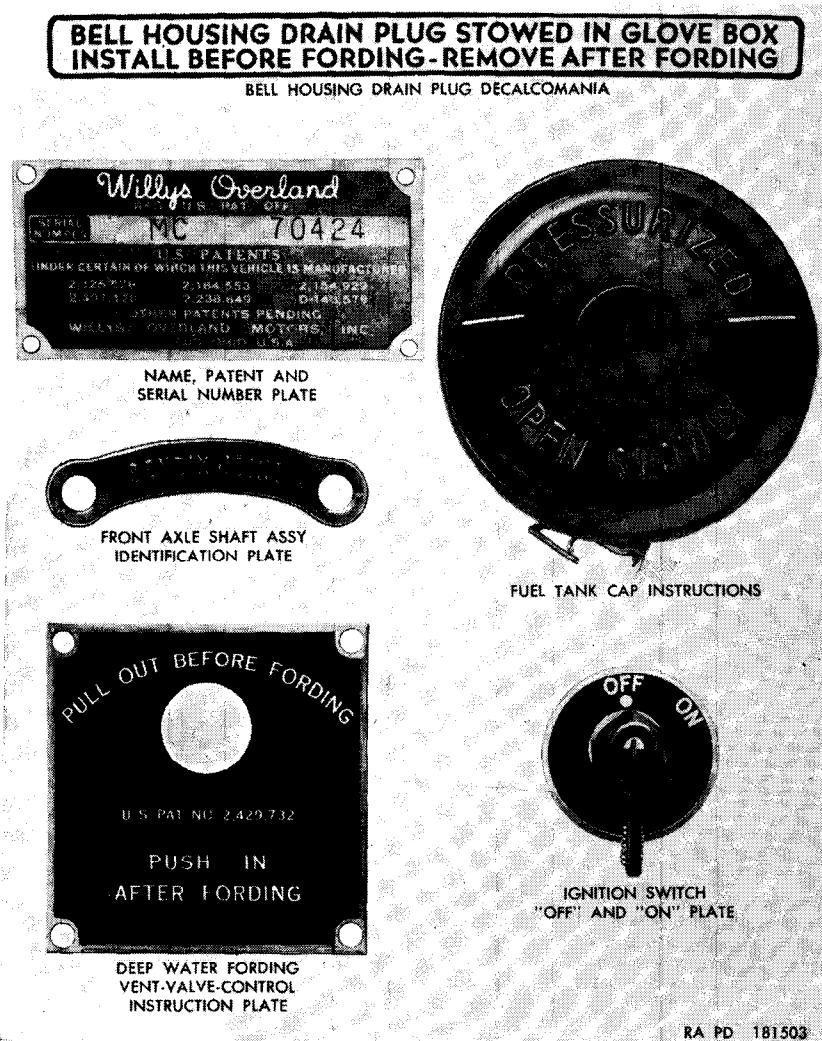

Figure 5. Instruction decalcomania and data plates.
(9) Name, patent, and serial number plate (fig. 5). The name, patent, and serial number plate is located on the inside of the body on the front of right rear wheel fender well.
- (2) *Deep water fording vent valve control instruction plate*. The deep water fording vent valve control instruction plate (fig. 5) is attached to the instrument panel behind the deep water fording vent valve control (H, fig. 7). The plate gives instructions for operating the control when fording.
- (4) *Ignition switch OFF and ON plate* (fig. 5). The ignition switch OFF and ON plate is located on the instrument panel to the left of the instrument cluster around the ignition switch (G, fig. 7) (MWO ORD G740-W5). The plate indicates whether the switch is on or off.
- (5) *Bell housing drain plug decalcomania* (fig. 5). The bell housing drain plug decalcomania is located on the instrument panel to the left of the instrument cluster and above the ignition switch. It gives the location of plug when not in use, and installation instructions.
- (6) *Fuel tank cap instructions* (fig. 5). The fuel tank cap is located on the left side of the vehicle. A decalcomania